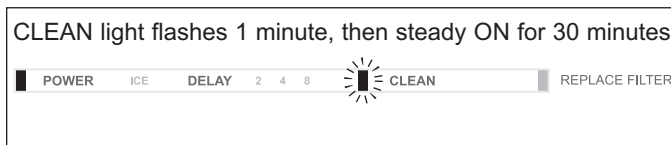
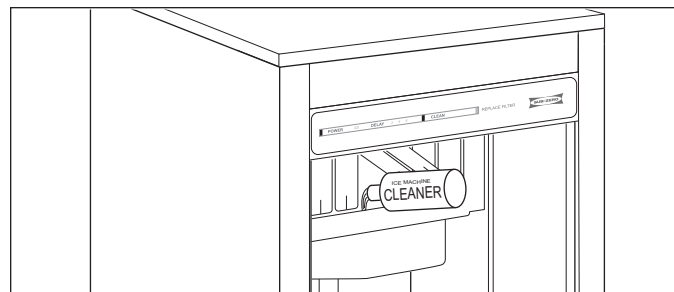

Figure 4-3. Clean Light Flashes = Add Cleaner
Figure 4-4. Pour Cleaner Into Spray Area
1. Prepare 4 oz (118 ml) of undiluted ice machine cleaner (7013400 only) in a container that will fit easily under lifted paddles (See Figure 4-4).
3. Wait 3 minutes until CLEAN light flashes (See Figure 4-3), then add prepared cleaner by lifting the water paddles and pouring directly into spray area (See Figure 4-4). The ice machine automatically times out a 10 minute cleaning cycle, followed by 8 rinse cycles, then stops. The CLEAN light switches off to indicate the clean cycle is complete. This entire cycle lasts about 30 minutes.